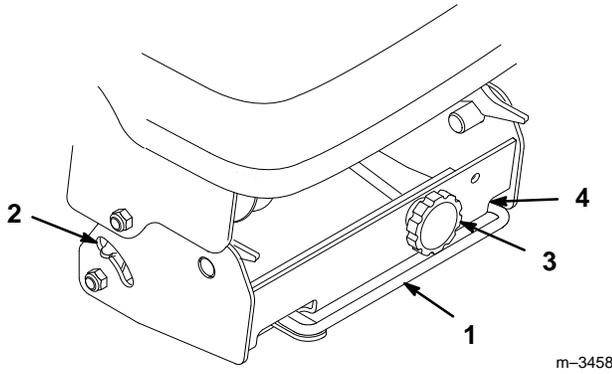

Figure 12
- Release the belt tension release arm on the pulley box housing and swing it out toward you (Fig. 12).
- Loop the other end of the belt over the drive pulley of the mower. Additional belt slack can be obtained (if needed) by turning the belt tension adjustment knob (Fig. 12).
- If the tension indicators are not in the same position, release the belt tension, turn the adjustment knob and repeat steps A and B until the indicators move to the same position (Fig. 12).
- Once the indicators are in the same position, swing the tension release arm into the pulley box and seat it by moving it into the position shown in Figure 12.